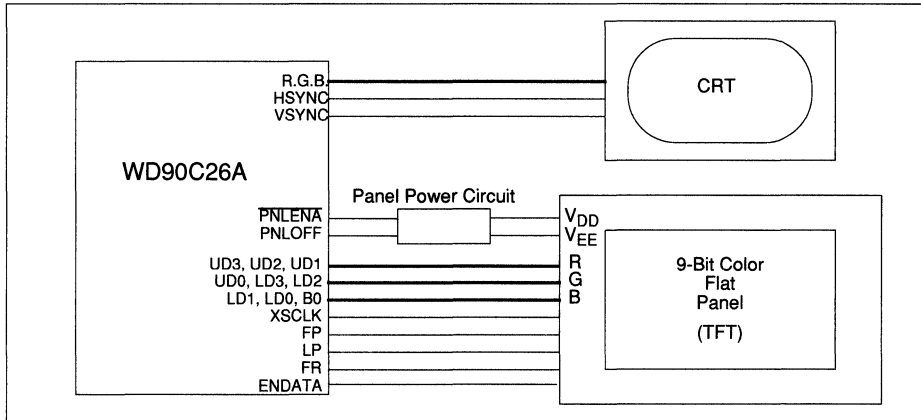

FIGURE 6-23 9-BIT COLOR LCD PANEL INTERFACE
- 9-Bit Color LCD Panel Interface (Figure 6-23)
When using a color panel with a 12-bit interface the LA22 through 21 address inputs become re-defined as the least significant red, green, and blue bits of the 12-bit interface. This makes it necessary for the system to provide the WD90C26A with decodes of the memory addresses in the "below-1 Mbyte" range. Figures 6-23 and 6-24 show two ways in which this can be done: by using the BLW1M input signal as an indication of address range, or by using the $\overline{\text{SMEMR}}$ and $\overline{\text{SMEMW}}$ memory strobes from the system buses.